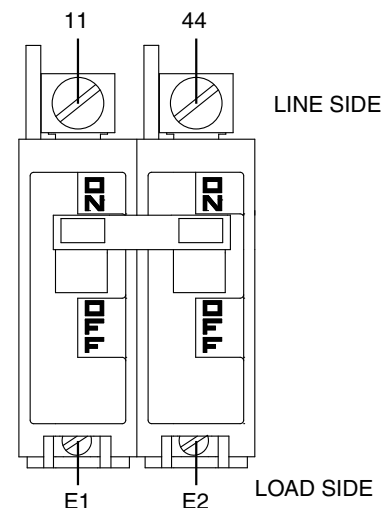

Figure 127. Main Line Circuit Breaker
- Connect one meter test lead to the Wire 11 terminal on the breaker and the other test lead to the E1 terminal. See Figure 127.